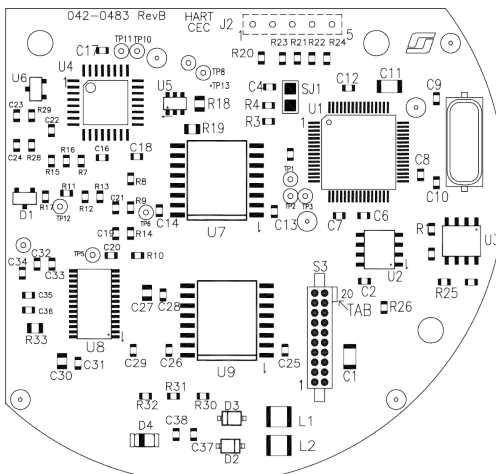

Figure 4-22: Optional Communication Expansion Card (CEC) PCB Connection
1. Unscrew the setscrew and housing cover, then pull on the LCD PCB/CPU PCB set from the four (4) standoffs.
2. Connect the CEC PCB's female 20-pin connector (S3) into the male 20-pin connector (P3) on the CPU PCB (refer to Figure 4-22: Optional Communication Expansion Card \(CEC\) PCB Connection for details).